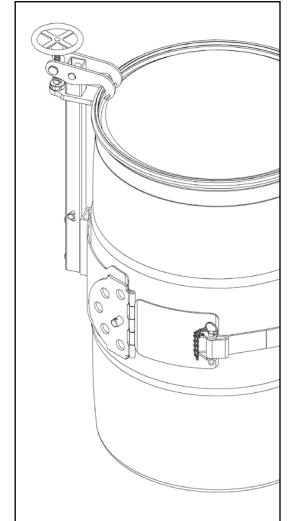

Figure 2.2
- The **Top Rim Clamp** (Part # 4560-P) grips the upper rim of your drum to prevent it from slipping through the drum holder (see figure 2.2). To handle a 55-gallon (210 liter) plastic or fiber drum with top rim, you **must** install either the Bracket Assembly or the Top Rim Clamp. You can use the Top Rim Clamp with a 55-gallon plastic, steel or fiber drum with suitable top rim.